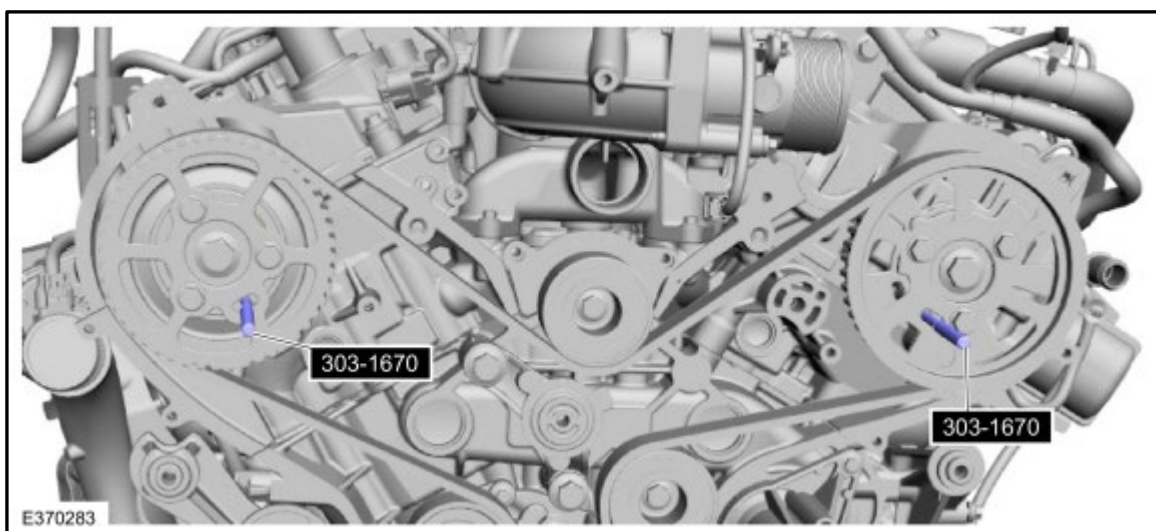

Figure 25
- T. **NOTE: The special tool can only be installed if the valve timing is correct.** Figure 25.